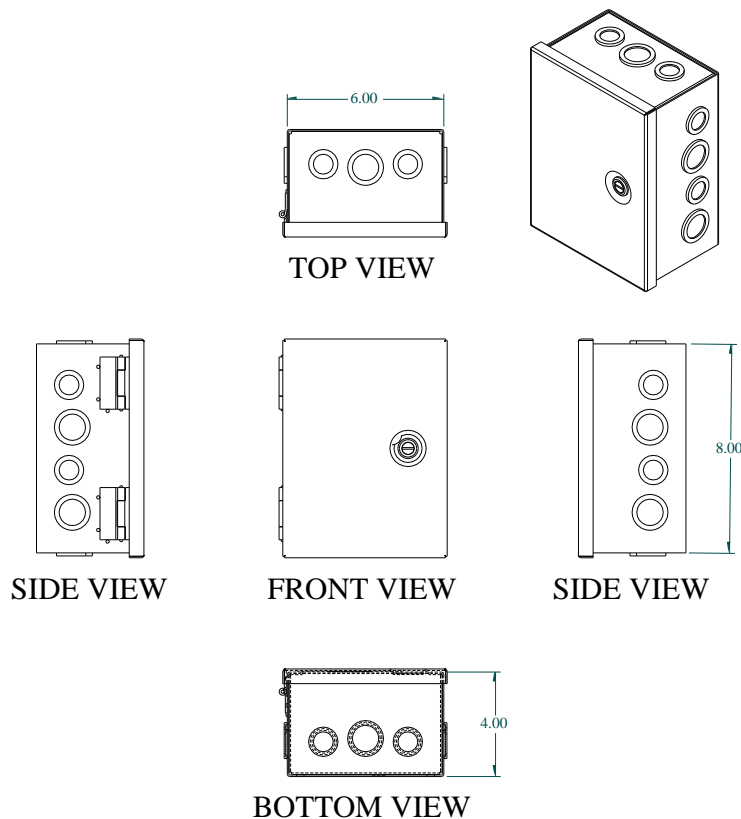

Figure 2.5: Pellergy PB-1525/3550 Terminal Panel Enclosure Exterior
All electrical connections to the PB-1525/3550 wood pellet burner system are made in the supplied connection panel. The panel is factory wired with two quick-connect cable sets that connect directly to the PB-1525/3550 burner head. All field connections are made to the supplied terminal blocks in the connection panel. A terminal connection listing is provided below as well as on the door of the terminal panel enclosure. Figure 2.5 below shows a detail of the enclosure. Four (4) knock outs are supplied on both sides of the enclosure as well as three (3) on the top for in-field installation of the proper connector for the wire being used. The two (2) outermost connections on the bottom of the panel are used by Pellergy for the factory wired and installed cable/connectors sets. The center knock out may be used for the installation of cables.